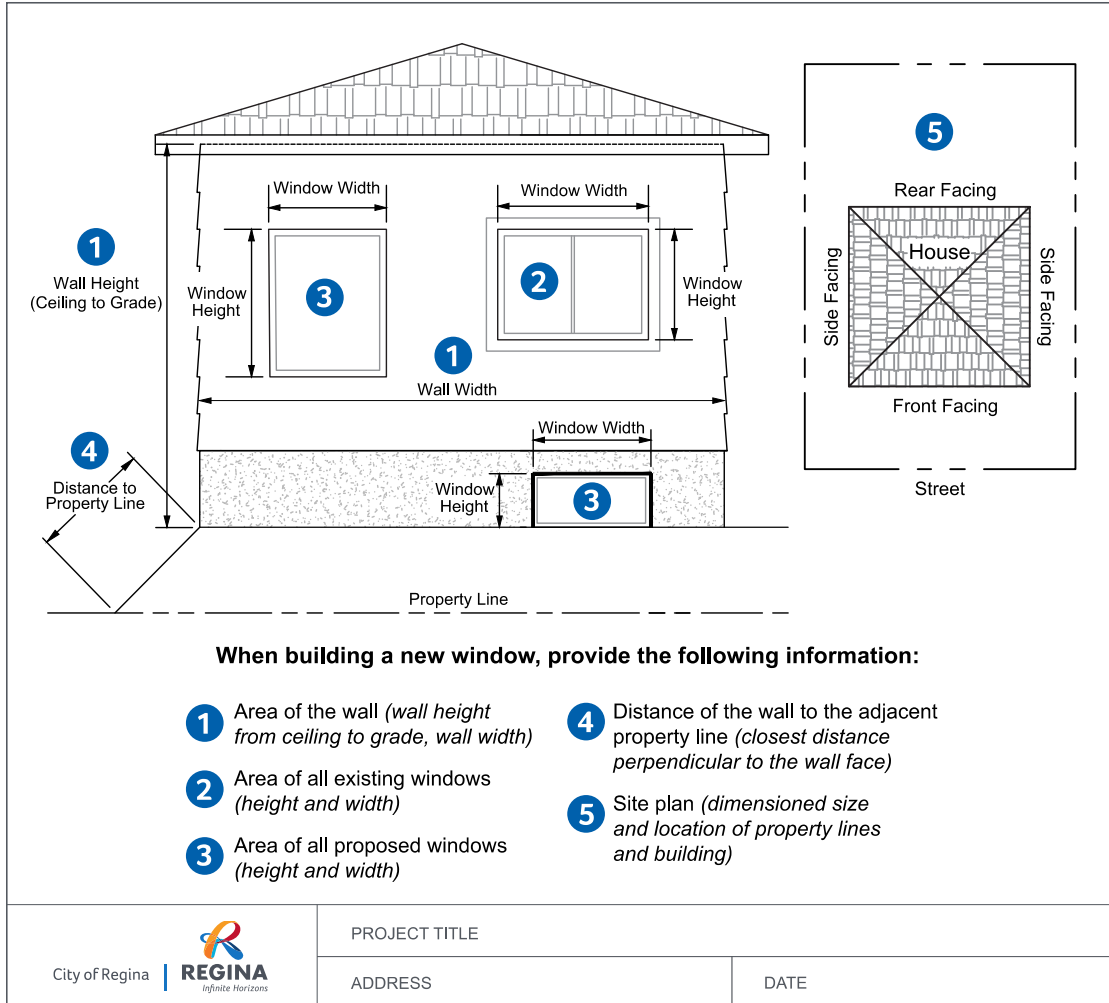

Figure 2 - Sample Window Elevation
- Modifying existing foundation openings or adding new openings (see Figure 2)
- length and height of wall (measured from grade to uppermost ceiling) (see Figure 2, Item 1)
- location and size of all existing windows on each wall with a new or altered window (see Figure 2, Item 2)
- distance to property line (measured perpendicular to wall face) (see Figure 2, Item 4)